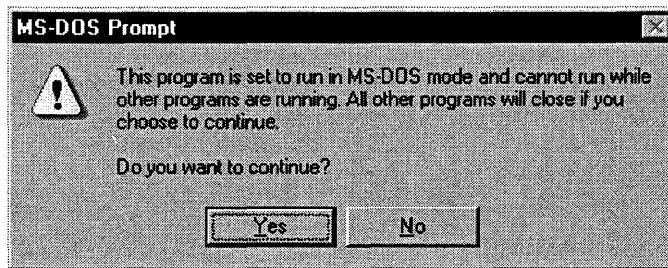

Figure 3-7: MS-DOS Prompt Message Box
4. After you have performed the previous step, a message box will be displayed informing you that the application will run in MS-DOS mode (Figure 3-7). Click the Yes button to continue.